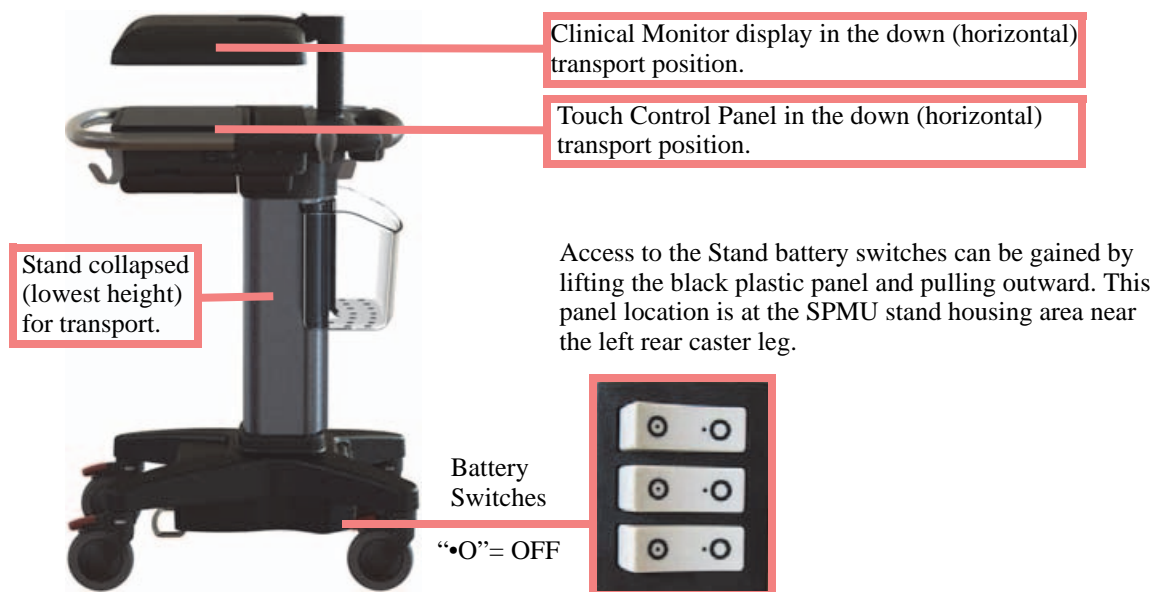

Figure 3.1 Stand System Battery Switches & Transport Positioning
- WARNING:** Due to the captive nature of the Stand version system batteries, any shipping transport, service activities, or extended periods of non-operation with the system unplugged from the AC wall source, will require that the battery ON-OFF switch be set to the “•O” (OFF) position. Please refer to Figure 3.1 on page 6.
Please observe the prior Warnings and Cautions outlined in this chapter concerning the stand version system for transport and servicing. Lower (collapse) the stand to the lowest height position, fold to the horizontal position the Clinical Monitor display and touch Control Panel, and access the three battery switches and ensure that all switches are in the “•O” (OFF) position. Many government agencies require that no electronic equipment be shipped via air transport with live battery power attached to the equipment. Refer to Figure 3.1 on page 6 as to how to position the system stand and disconnect the battery power for transport and servicing.